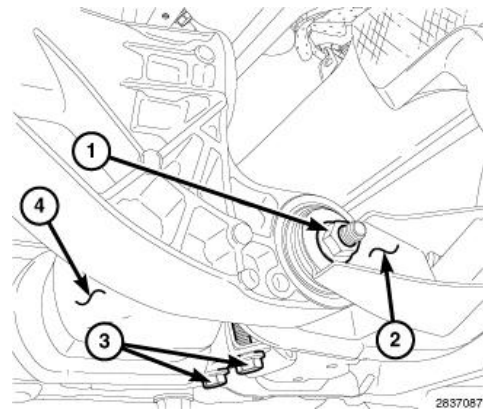

Figure 25 – Front Axle Fasteners
7. Install **NEW** front axle tube bushing mounting fasteners (1) in the RH axle bracket (2) and tighten to 61N·m (45 ft. lbs.) (Figure 25).
8. Install frame dampener (4) and bolts (3) and tighten to 61N·m (45 ft. lbs.).